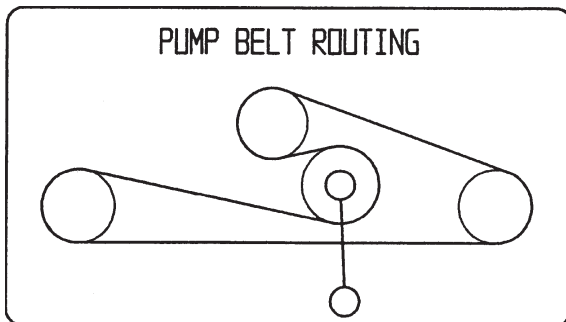

Figure 58
1. Pull spring loaded idler down and remove traction belt from the engine and hydro pump pulleys (Fig. 58). Remove belt between pulleys.
2. Install new belt around engine and hydro pump pulleys (Fig. 58).
3. Pull spring loaded idler down and align below traction belt. Release pressure on spring loaded idler (Fig. 58).